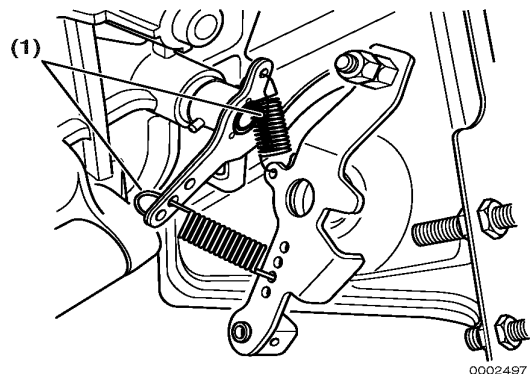

Figure 8-79
2. Pull the assembly away from the crankcase (**Figure 8-79, (1)**) and mark the position of each spring end for reassembly. Carefully remove each spring.